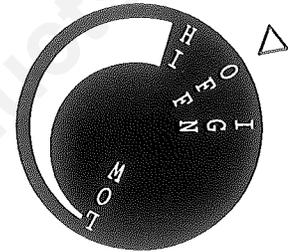

Figure 16
Heaters equipped with the T-stat option are fitted with a temperature sensing modulating gas valve. This option allows the heater to alternately cycle through four (4) operating modes. They are: Off (pilot only), Low, Medium and High, dependent upon the thermostatic control knob setting (Figure 16).